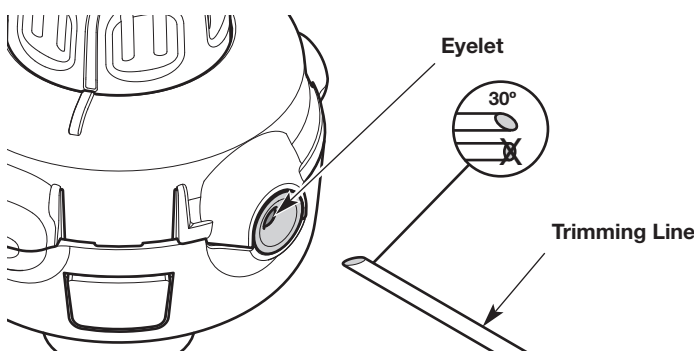

Fig. 27
2. Cut two 7-foot (2.1 m) lengths of new trimming line. Cut one end of each line at a 30 degree angle (Fig. 27).
4. Insert one of the lines into an eyelet on the cutting head (Fig. 27). Use the angled end and push the line in about 3 inches (7.5 cm). Repeat this process with the other line and remaining eyelet.